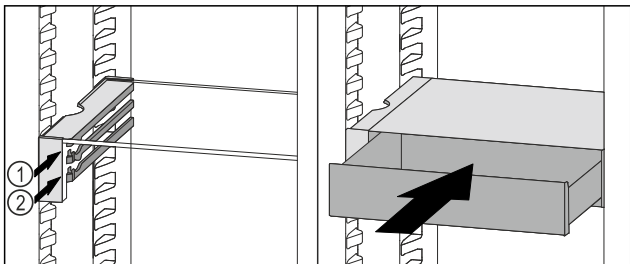

Fig. 89
- ▶ Place the VarioSafe drawer behind the stoppers on desired rib Fig. 89 (1) or Fig. 89 (2).